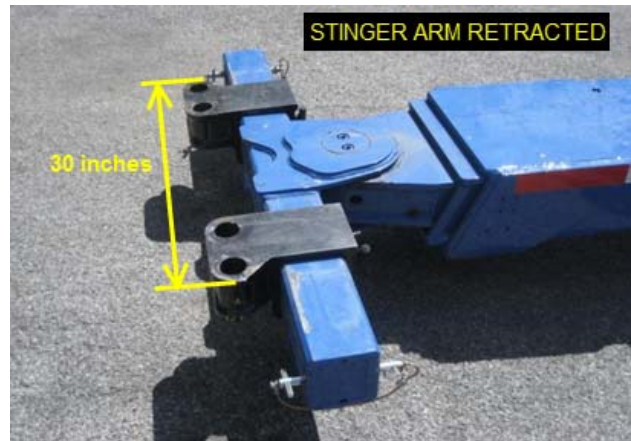

FIG.55
3. Retract the tow truck stinger arm (fig.55).
4. Pre-adjust spacing between the axle fork holders. The spacing between the most distant edges of the fork holders should be **30 inches** (fig.55).